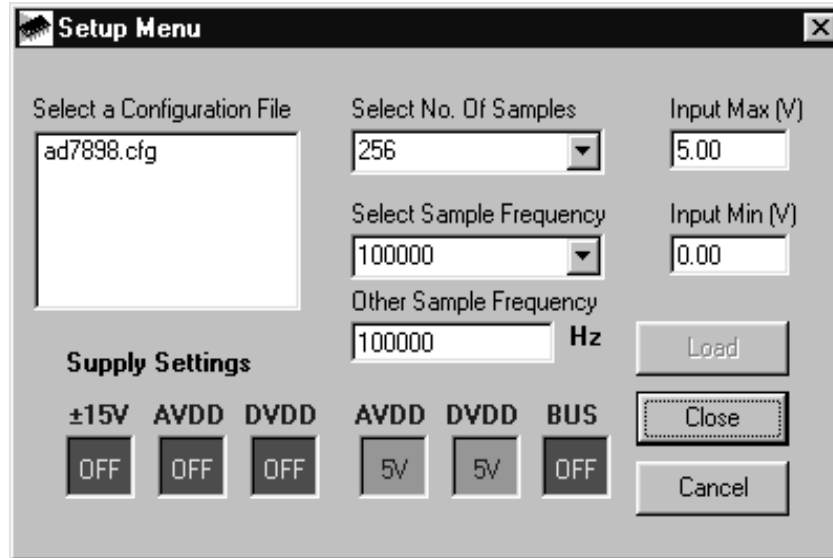

Figure 4. The Setup Screen
The Setup Screen is responsible for allowing the user to load the AD7898 configuration file for the evaluation board. The configuration file will give the software detailed information about the AD7898 evaluation board and part connected to the Evaluation Board Controller such as number of bits, maximum sampling rate, power supply requirements etc. The AD7898 configuration file also tells the software the name of the DSP program file which it should download to the Evaluation Board Controller. These files are supplied by Analog Devices with the evaluation board. Figure 4 shows the Setup Screen.
**Setup Menu:** Selecting this option displays the Setup Screen as shown in Figure 4.